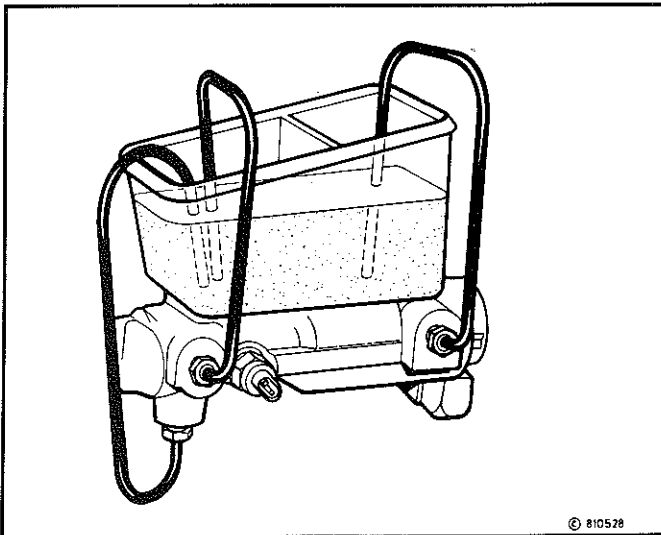

Fig. 6—Master cylinder bleeding tubes
- (1) Protect paint work area against splash or leakage of brake fluid during the bleeding operation.
- (2) Disconnect all brake tubes from the master cylinder unions.
- (3) Install the bleeder tubes to the master cylinder ports (refer Fig. 6).